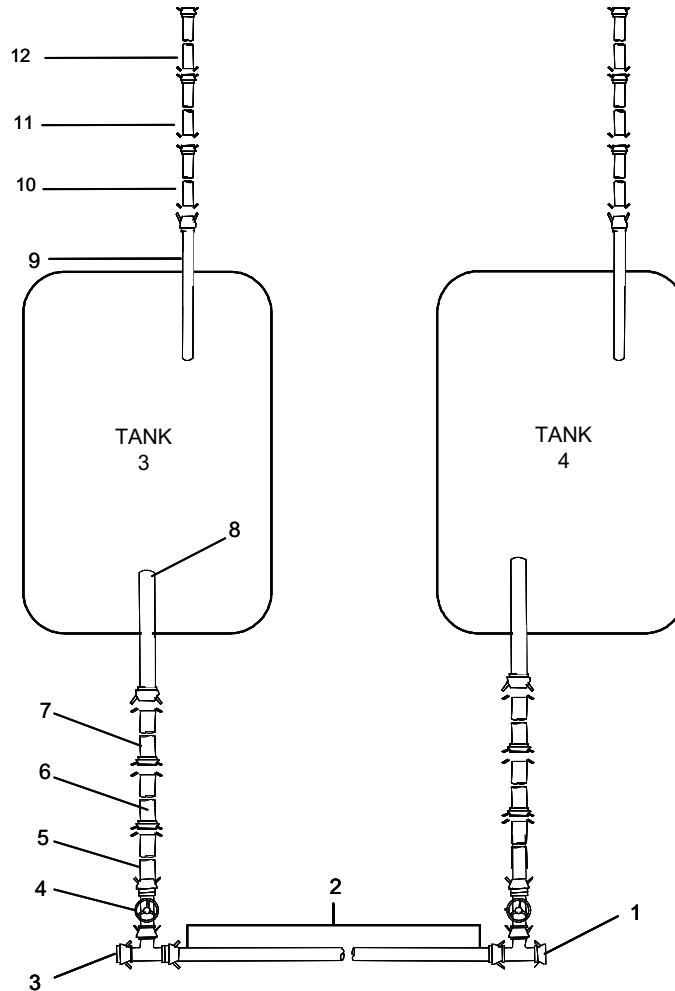

Figure 3. Fuel Tank Receipt Components Between Tanks.
19. Connect the two sections of 6 in. x 50 ft. discharge hose together (Figure 3, Item 2).
20. Connect two sections of the 6 in. x 50 ft. discharge hose (Figure 3, Item 2) to the 6 in. female x 6 in. female x 6 in. male tee assembly (Figure 3, Item 1).
22. Connect end of 6 in. x 50 ft. discharge hose (Figure 3, Item 2) to the 6 in. female x 6 in. male x 6 in. male tee assembly (Figure 3, Item 3).
24. Connect the 6 in. gate valve (Figure 3, Item 4) to the 6 in. female x 6 in. male x 6 in. male tee assembly (Figure 3, Item 3).
26. Connect the three sections of 6 in. x 10 ft. discharge hose (Figure 3, Items 5, 6 and 7) together.
27. Connect one section of 6 in. x 10 ft. discharge hose (Figure 3, Item 5) to 6 in. gate valve (Figure 3, Item 4).
28. Connect the second and third section of discharge hose (Figure 3, Items 6 and 7) to the tank hose (Figure 3, Item 8).
30. Connect the two 6 in. x 10 ft. suction hoses (Figure 3, Items 9 and 10) together.
31. Install the two 6 in. x 10 ft. suction hoses (Figure 3, Items 9, 10, 11 and 12) on the discharge side of the fuel tank suction hose (Figure 3, Item 9).